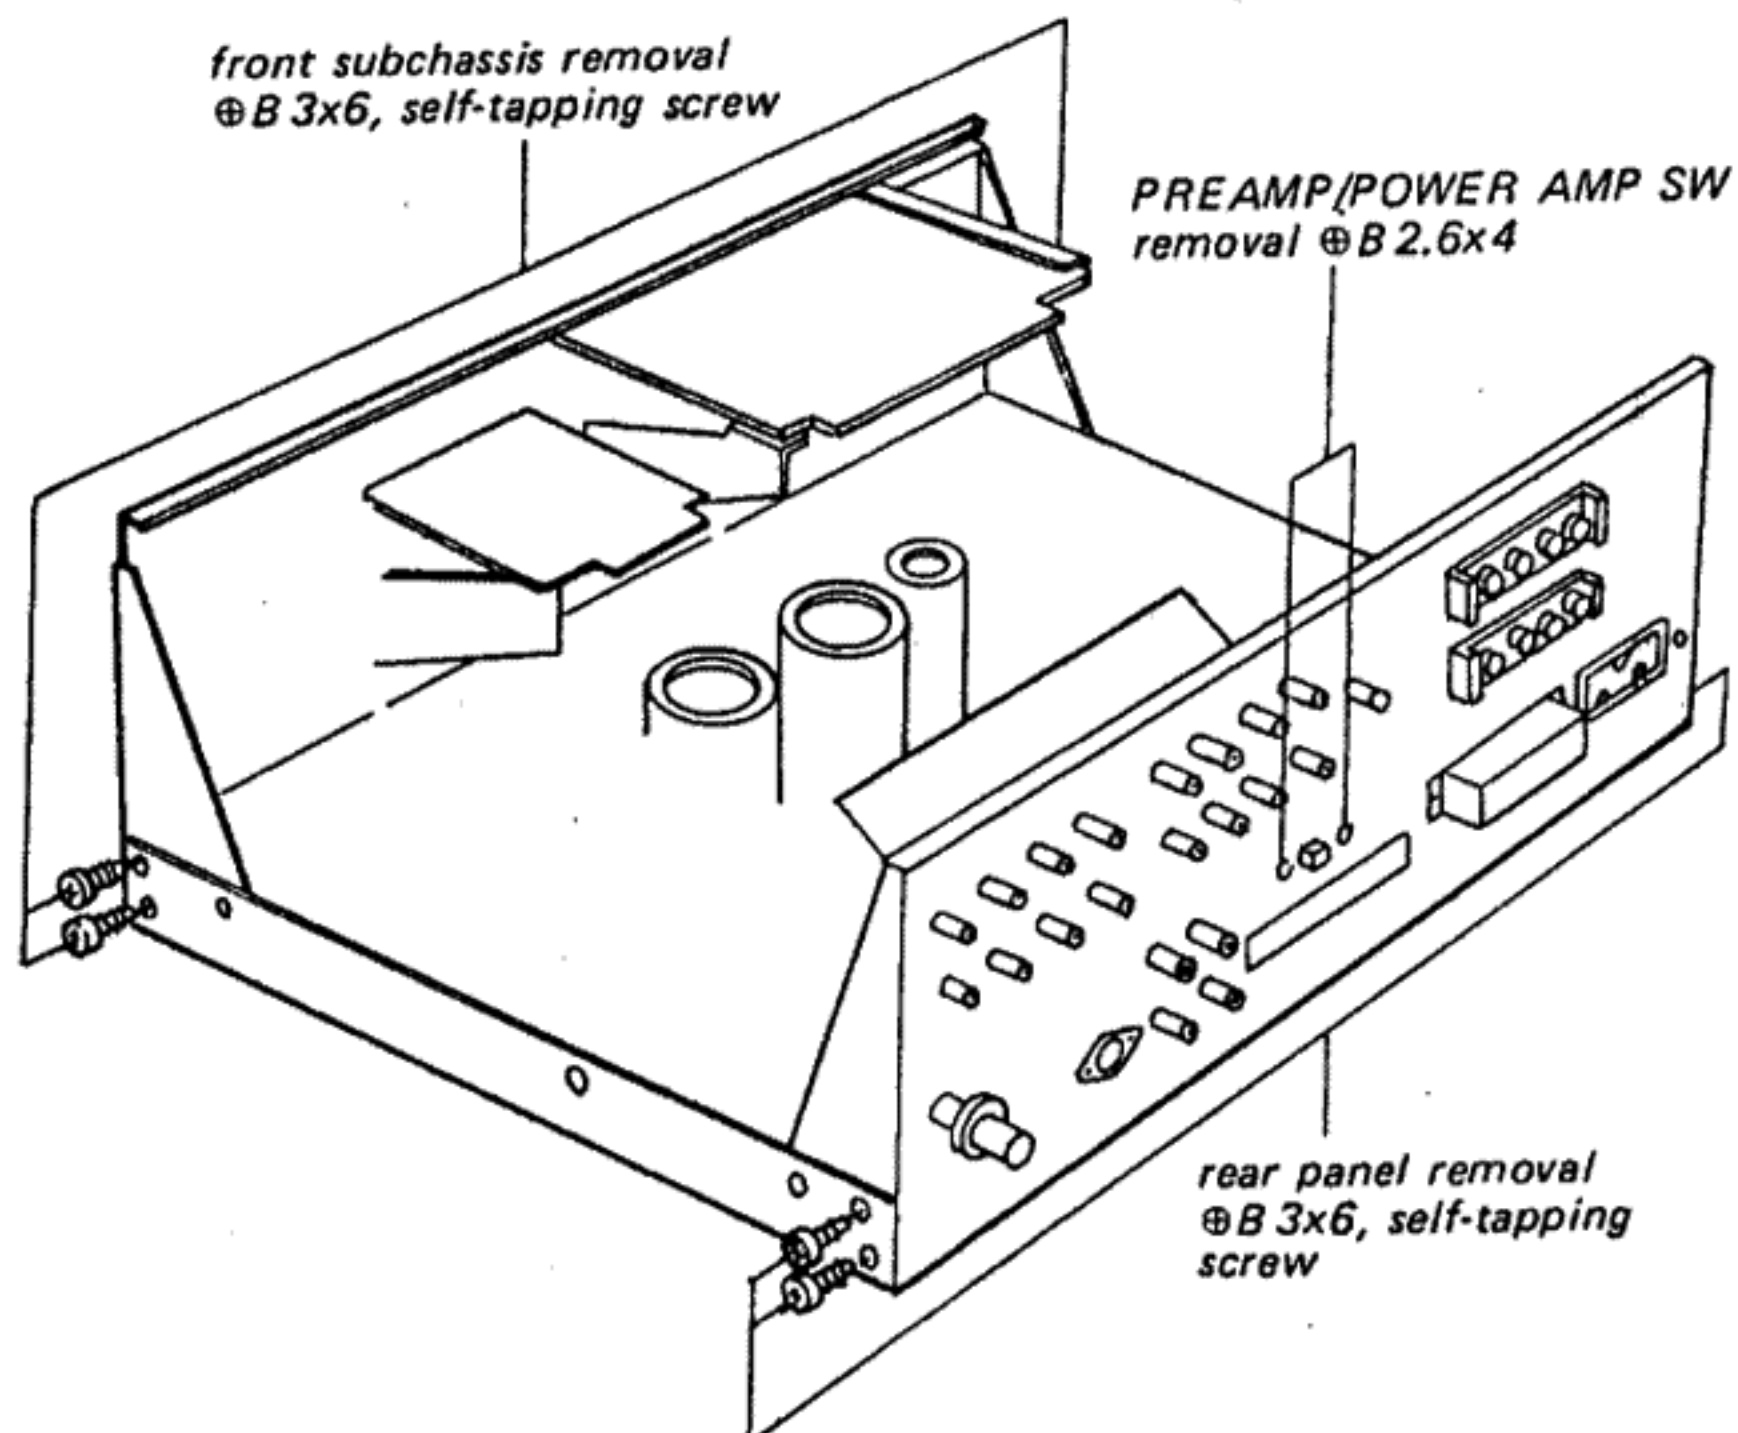

Fig. 2-4. Front subchassis removal
2. Remove the two self-tapping screws (⊕ B 3x6) at each side of the chassis (see Fig. 2-4) and four self-tapping screws (⊕ B 3x6) at the front bottom of the chassis as shown in Fig. 2-3. This frees front subchassis.
2. Remove the two self-tapping screws (⊕ B 3x6) at each side of the chassis (see Fig. 2-4) and four self-tapping screws (⊕ B 3x6) at the rear bottom of the chassis as shown in Fig. 2-3. This frees rear panel.
2. Remove the two screws (⊕ B 2.6x4) securing the switch to the rear panel as shown in Fig. 2-4.